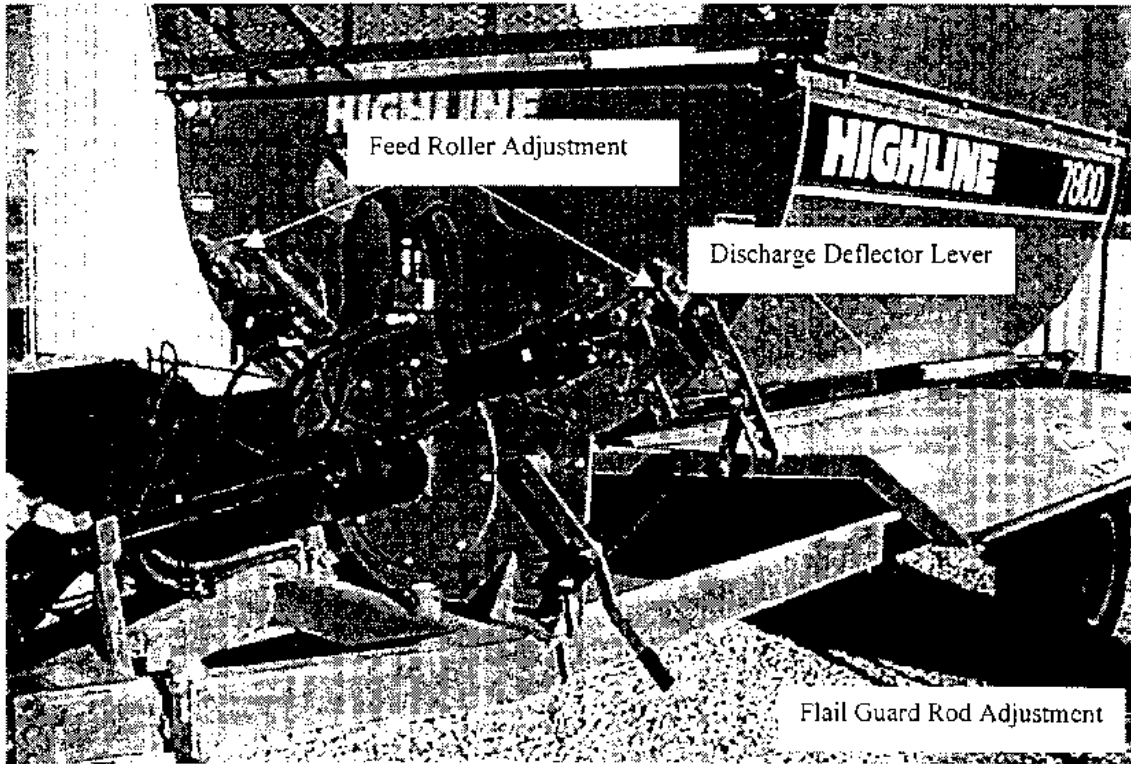

Figure 1 Manual Controls
4. Position the discharge deflector by means of the Adjusting handle in the upper position for bedding, and in the lower position for windrow feeding (figure 1).
5. Adjust the flail guard rods by the raising or lowering the adjusting handle (figure 1). With the handle at its highest position, the Bale Pro will process very aggressively. Lowering the handle will decrease the aggressiveness of the processor.